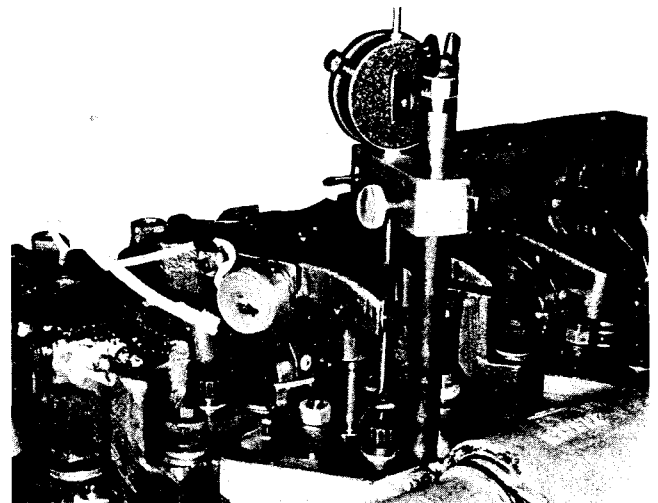
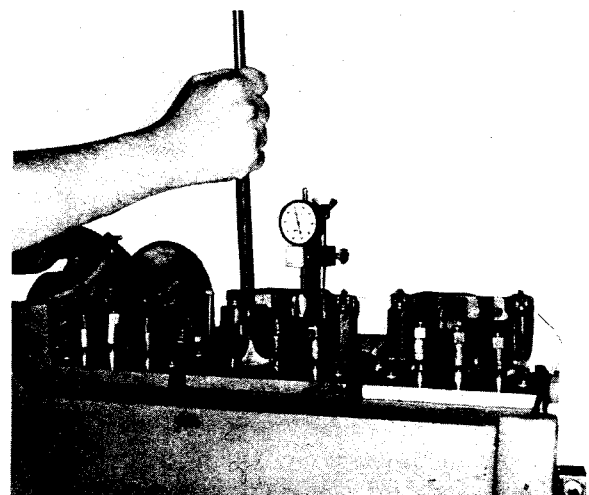

Fig. 2-53, (K114130). Dial indicator in place — extension in contact with plunger — KT(A)-1150
Fig. 2-54, (K114104). Actuating rocker lever
**Note:** The injector and valves on any one (1) cylinder can not be set at the same valve set position. Example: If the rocker levers on No. 3 cylinder are free (valves closed) the injector plunger travel on No. 6 cylinder is to be adjusted. Any valve set position may be used as a starting point. See Table 2-15.
2. Install 3375004 Dial Indicator Assembly to rocker housing, extension (3375005) must go through opening in Jacobs Brake housing and contact injector plunger top. Fig. 2-53.
3. Screw injector lever adjusting screw down until plunger is bottomed in cup, back off approximately 1/2 turn then bottom again, set dial indicator at zero (0).
5. Using 3375009 Rocker Lever Actuator Assembly and Support Plate, bottom injector plunger, check zero (0) setting. Fig. 2-54. Allow plunger to rise